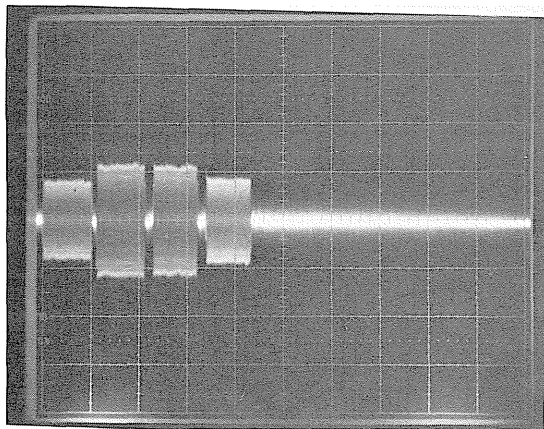

FIGURE 13
- f. Compare the wave form to Figure 13. If not within the range shown the head Azimuth will require adjustment. If required, proceed to next step.
- i. Pry the R.H. side of the stepper plate up with a medium screw driver until the 1st and 4th sectors have equal to or less amplitude than the middle 2 sectors. Reference Figure 13.